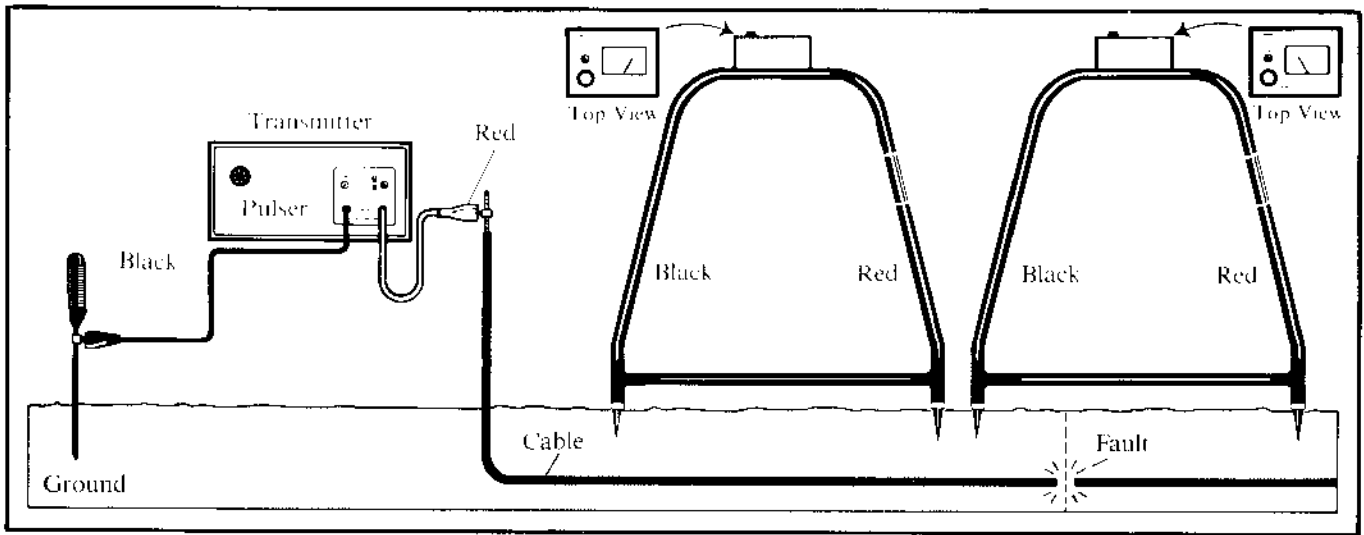
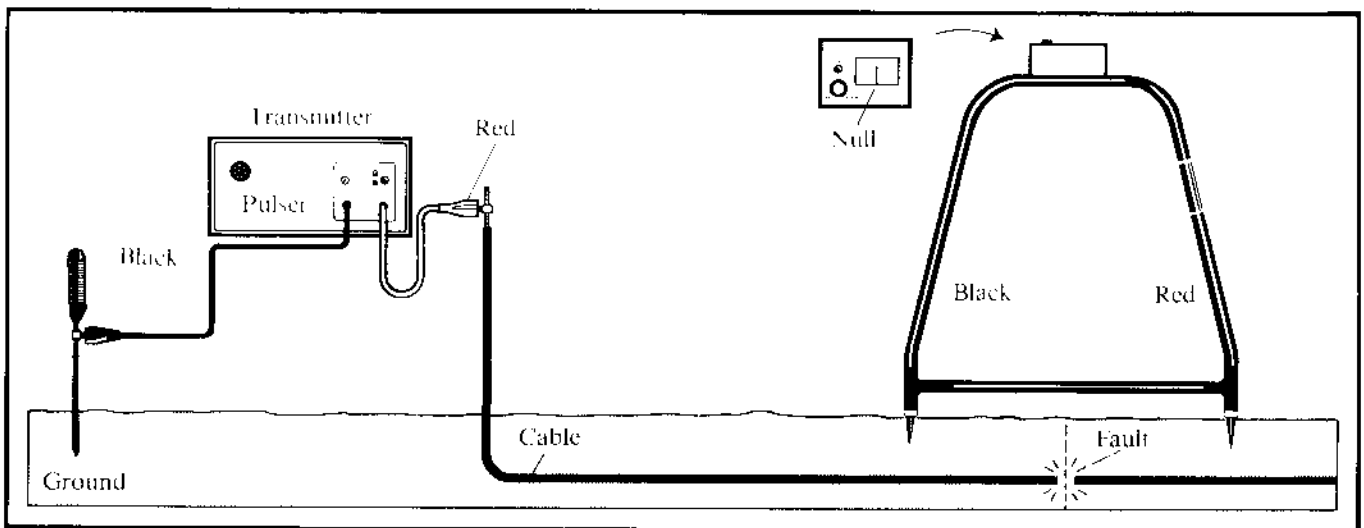

Figure 4 Probing Cable Path-Reversal
Figure 5 Nulling Receiver First Time
3.05 Turn the receiver on. Verify the battery condition by pressing the battery test button and observing the meter. Insert the "A" Frame probes into the earth, orienting the black receiver probe closest to the transmitter ground stake. (See Figure 4) If all probes are making good ground connection, the receiver will kick toward the red probe in step with the transmitter beeper.
To determine the exact location, move the "A" Frame in the direction of the black kick until the kick reverses to red. (See Fig. 4) Now move the "A" Frame in small increments back to the red kick until it reverses to a black kick or it nulls. (See Fig. 5)
NOTE: RECEIVER WILL NULL WHEN PROBES EVENLY STRADDLE THE FAULT. MARK THIS SPOT (See Figures 5 and 6)